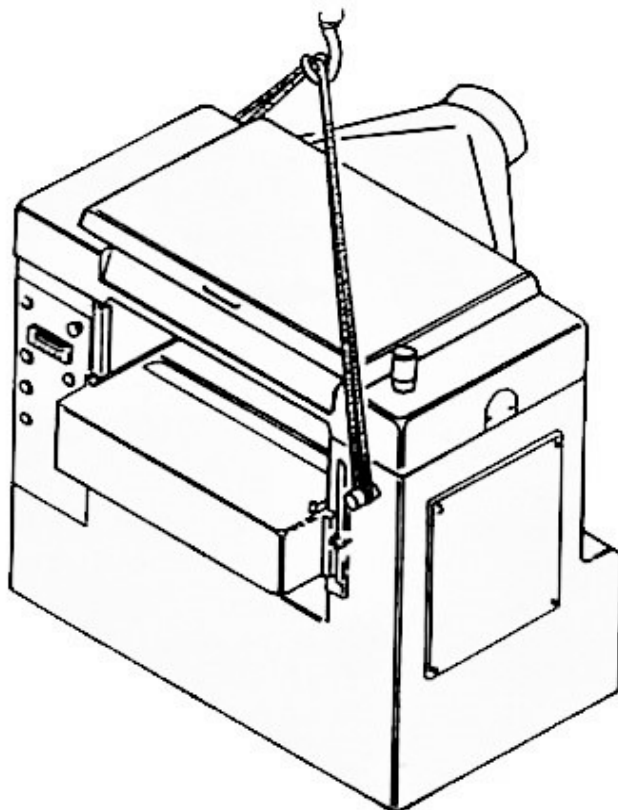

Fig. 1
9. For lifting, please refer to Fig. 1